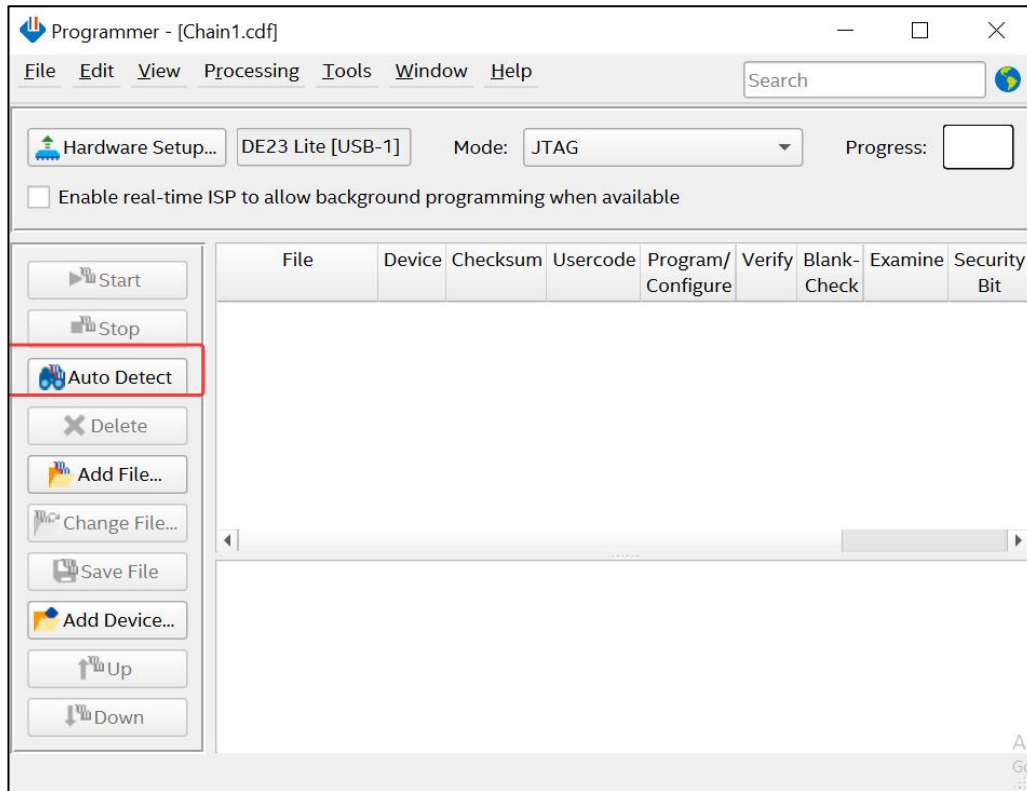

Figure 3-4 Detect FPGA device in JTAG mode
3. Open the Programmer and click “**Auto Detect**”, as shown in **Figure 3-4**.